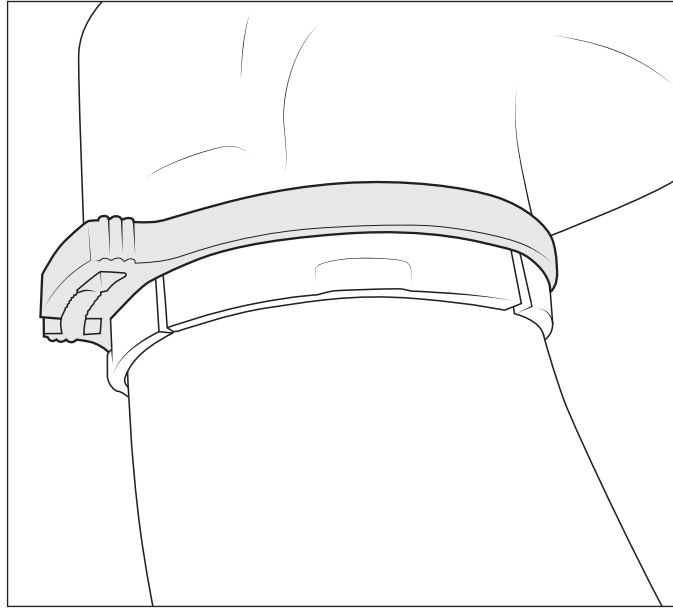

Figure 14
3. Install air ram with provided clamp and tighten until snug enough to prevent lifting or twisting of the air ram (fig. 14). Channel locks or large pliers may be helpful to get clamp tight enough for good retention.